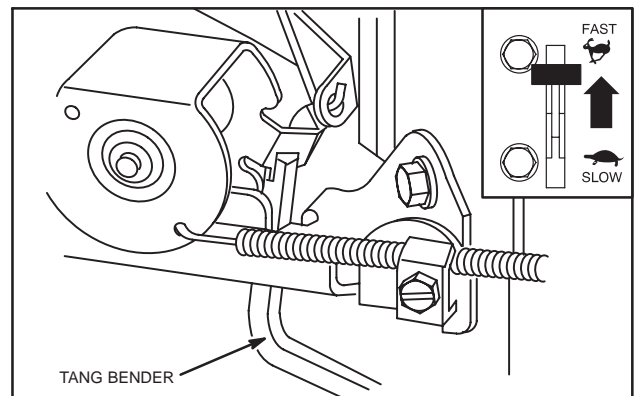

Fig. 25 – Adjusting Top No Load Speed
- a. Bend tang to obtain correct RPM, Fig. 25.